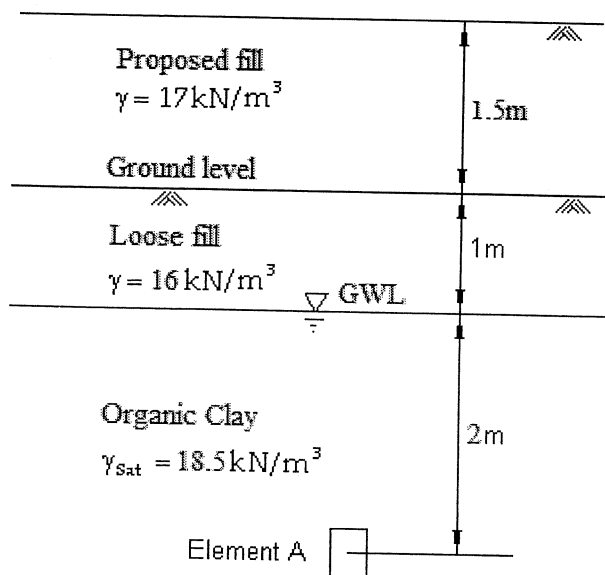

Fig. 4
4. Fig. 4 shows the soil profile of a low-lying land, and its proposed compacted fill. The Geotechnical Engineer wishes to assess strength and hence stability of the organic clay, during placement of the fill. She has obtained an undisturbed borehole specimen from a depth of 3m (i.e. refer Element A). The Oedometer test results show that element A is normally-consolidated.